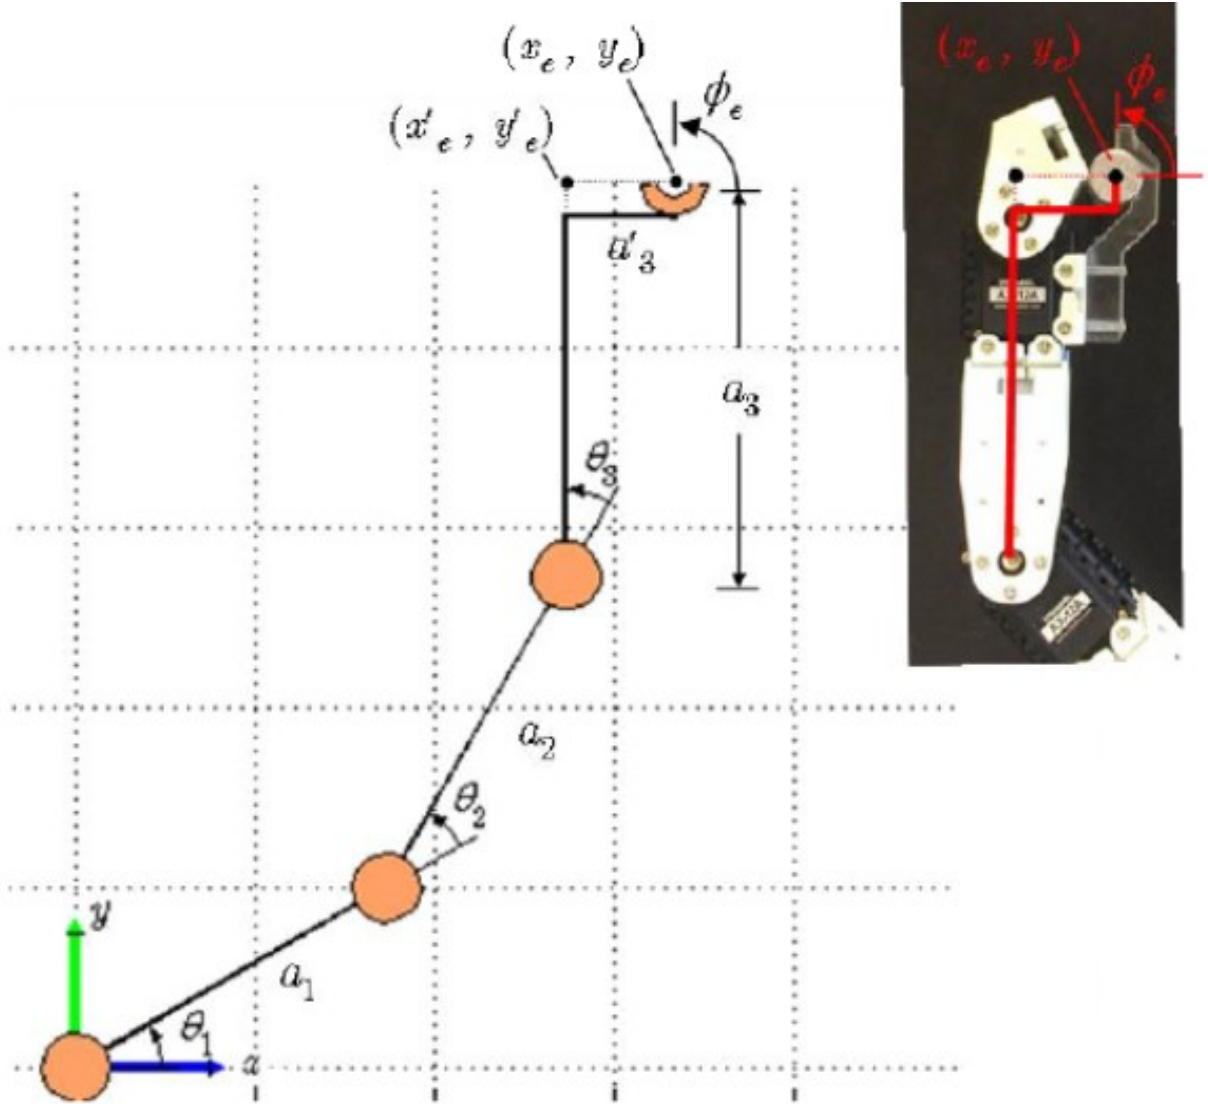

Figure 1: Coordinate frame for the RRR serial robot.
Fig. 1 shows the end-effector position  $(x_e, y_e)$  and orientation  $(\phi_e)$ , and link lengths  $(a_i)$ . Furthermore, each joint angle  $(\theta_i)$  is defined positive in the counter-clockwise direction. An additional length  $(a'_3)$  is for the lateral offset between link3 and the location on the gripper where the pen is held. This must be accounted for in the forward and displacement analysis. We use an intermediate variable as follows:
- In order to account for the offset of the pen from the center of the third link, shown in Fig. 1, you need to use a virtual end-effector location. Calculate the virtual end-effector location coordinates  $x'_e$  and  $y'_e$  using Equations 1 and 2, where  $a'_3 = 2.7$  cm.